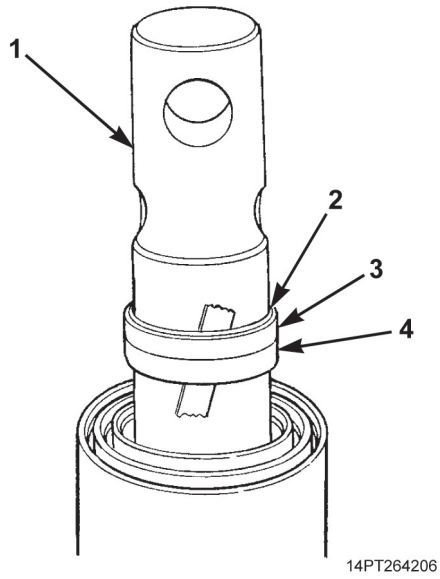

Figure 2. Wiper Components Removal.
3. Lift plunger (Figure 2, Item 1) to expose wiper retainer (Figure 2, Item 3) and seal (Figure 2, Item 4). Lower plunger and remove nylon sling. Remove wiper retainer and seal from plunger. Remove wiper (Figure 2, Item 2) from wiper retainer. Discard wiper, wiper retainer, and seal. Remove tape from plunger, if used.